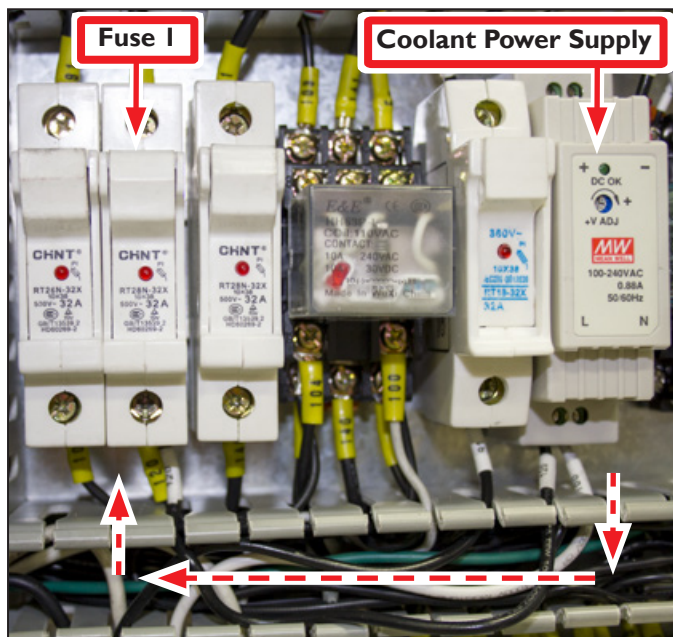
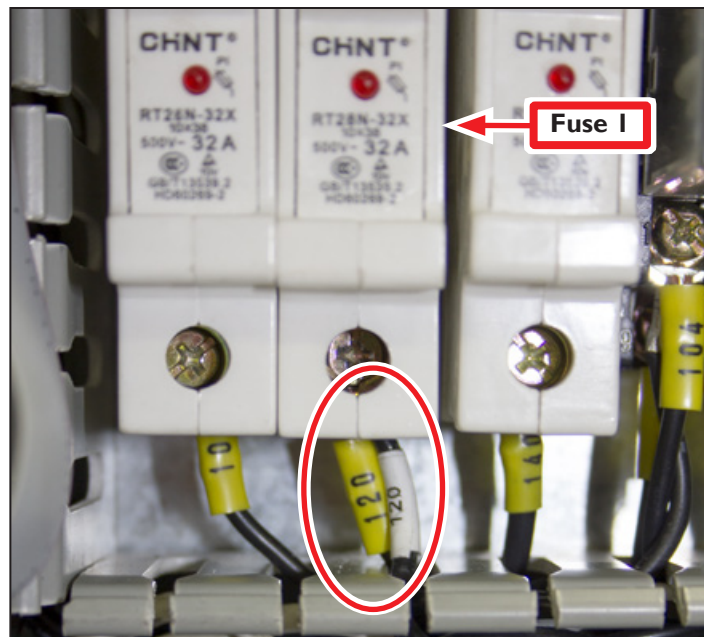

Figure 10
Figure 11
6. Identify wire 120 from Coolant Power Supply; route through wire trough and connect to the corresponding output of Fuse 1 (see **Figure 10** and **Figure 11**).